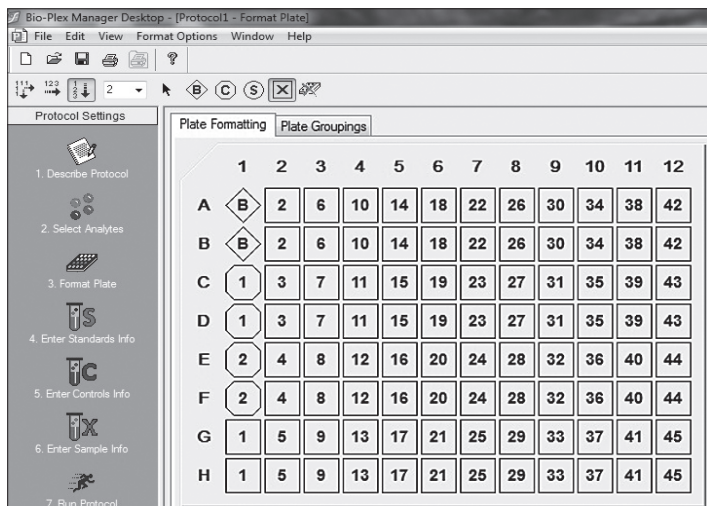

Fig. 3. Plate formatting.
8. Click **Format Plate**, and format the plate according to the plate layout created in Section 2, Plan the Plate Layout. To modify the plate layout, follow the steps below (see Figure 3).